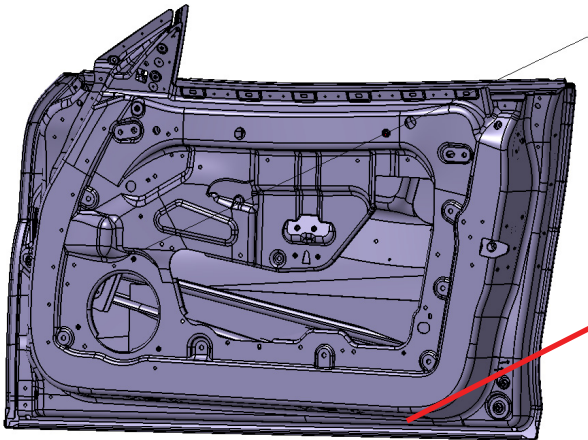

fig 4a
- 4) Adjust rear regulator mount, outboard as far as required to ensure proper glass alignment (fig 4a, 4b). Maintain clearance from the side impact bar, to avoid any interference (contact) or rattles.